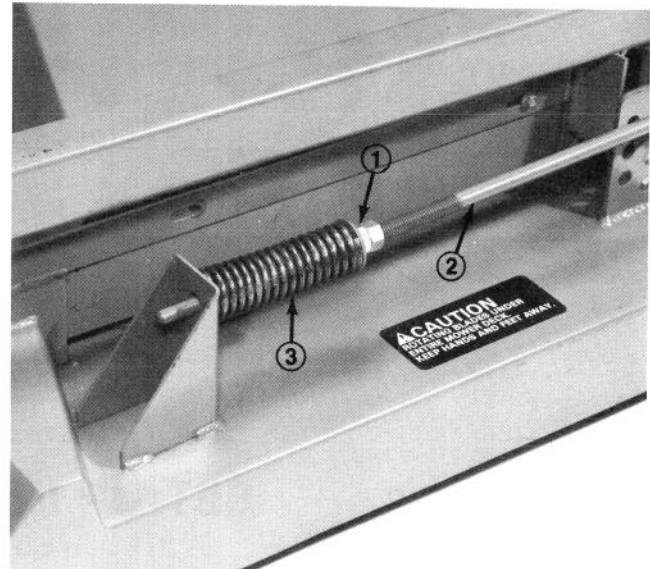

Figure 4
1. Loosen jam nuts, springs and spacers on adjusting rods (Fig. 4), allowing deck to be moved rearward for belt installation.
length 3/16" longer than spacers inside of springs (Fig. 4). Secure rear jam nuts.